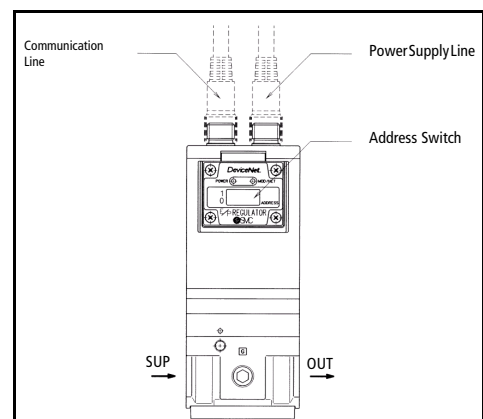

Fig 6
- The setting of an address switch requires the removal of 4 screws in the front panel of the unit (Fig 6). Take care that the panel hinges to 90 degrees maximum.